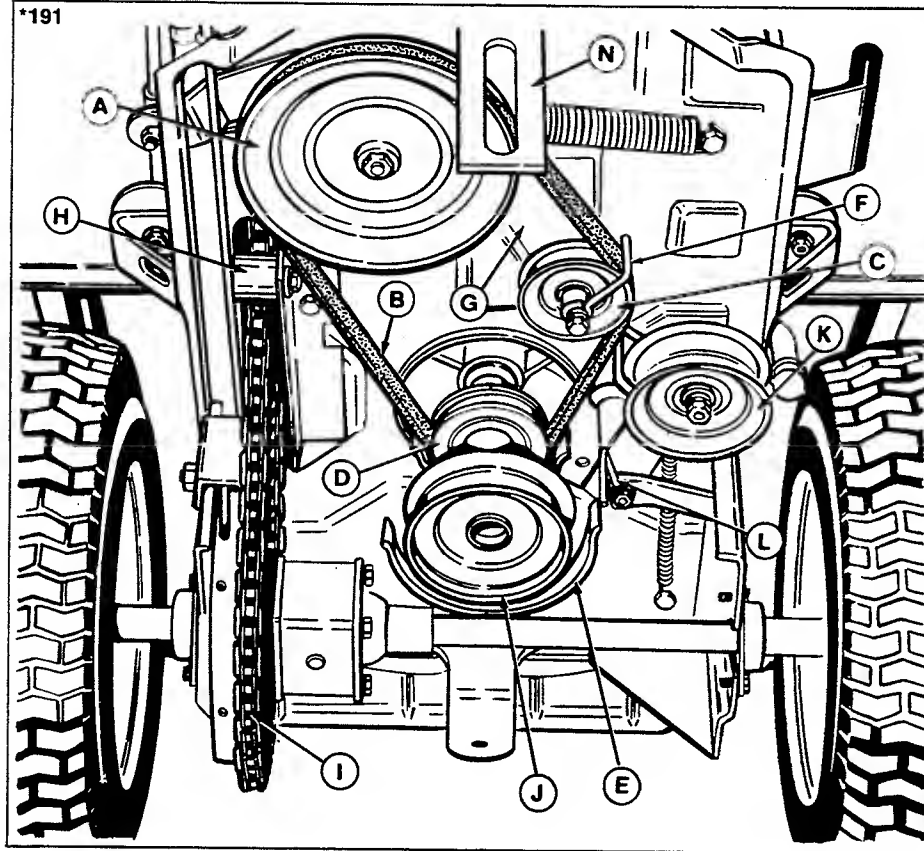

Figure 20. Rider & Mower Drive
2. Refer to figure 20. Adjust the idler pulley belt stop (F) so it is at a 90° angle to the idler arm (G).
3. Adjust the belt guard (E) so there is 1/8" (3 mm) clearance between guard and lower pulley. To move belt guard, loosen its two mounting capscrews and slide guard rearward or forward.
1. Refer to figure 20. Adjust the mower drive belt stop (L) so it is parallel with the rider.
2. Adjust the traction drive idler pulley belt stop (F) so it is at a 90° angle to the idler arm (G).
3. Adjust the belt guard (E) so there is 1/8" (3 mm) clearance, between guard and lower pulley. To move belt guard, loosen its two mounting capscrews and slide guard rearward or forward.
This procedure assumes the belt is installed on the engine PTO pulley (J, figure 20) and idler pulley (K).
This procedure assumes the mower drive belt is already installed on the PTO pulley (J, figure 20) and idler pulley (K).